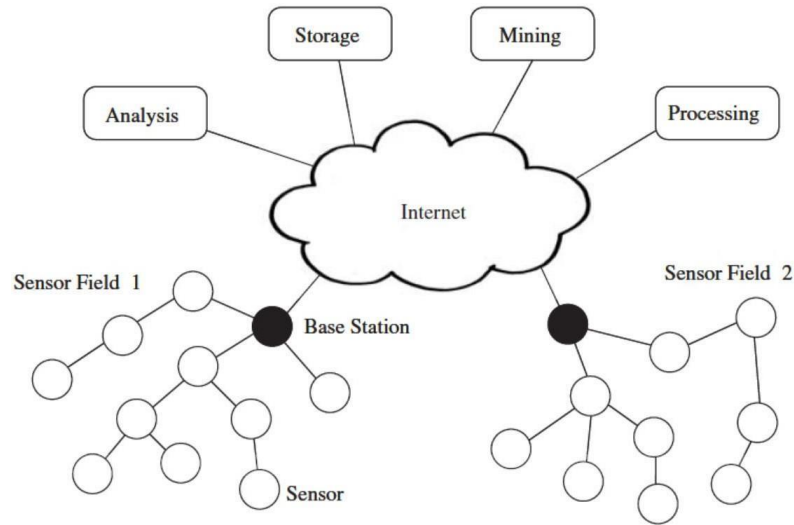

Figure 2.3. WSN.
While many sensors connect to controllers and processing stations directly (e.g., using local area networks), an increasing number of sensors communicate the collected data wirelessly to a centralized processing station. This is important since many network applications require hundreds or thousands of sensor nodes, often deployed in remote and in accessible areas. Therefore, a wireless sensor has not only a sensing component, but also onboard processing, communication, and storage capabilities. With these enhancements, a sensor node is often not only responsible for data collection, but also for in-network analysis, correlation, and fusion of its own sensor data and data from other sensor nodes. When many sensors cooperatively monitor large physical environments, they form a wireless sensor network (WSN). Sensor nodes communicate not only with each other but also with a base station (BS) using their wireless radios, allowing them to disseminate their sensor data to remote processing, visualization, analysis, and storage systems. (See Fig 2.3).